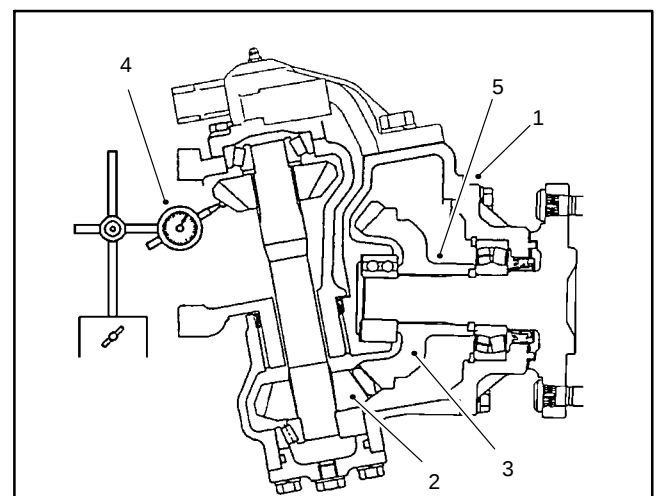

Figure 72
9. Remove the bevel gear case/axle case assembly from the axle support. Coat a new O-ring with grease and temporarily install the axle cover assembly. Position a dial indicator at the tooth's center. Prevent the axle from turning and measure the lower bevel gear to axle gear backlash (Fig. 72).